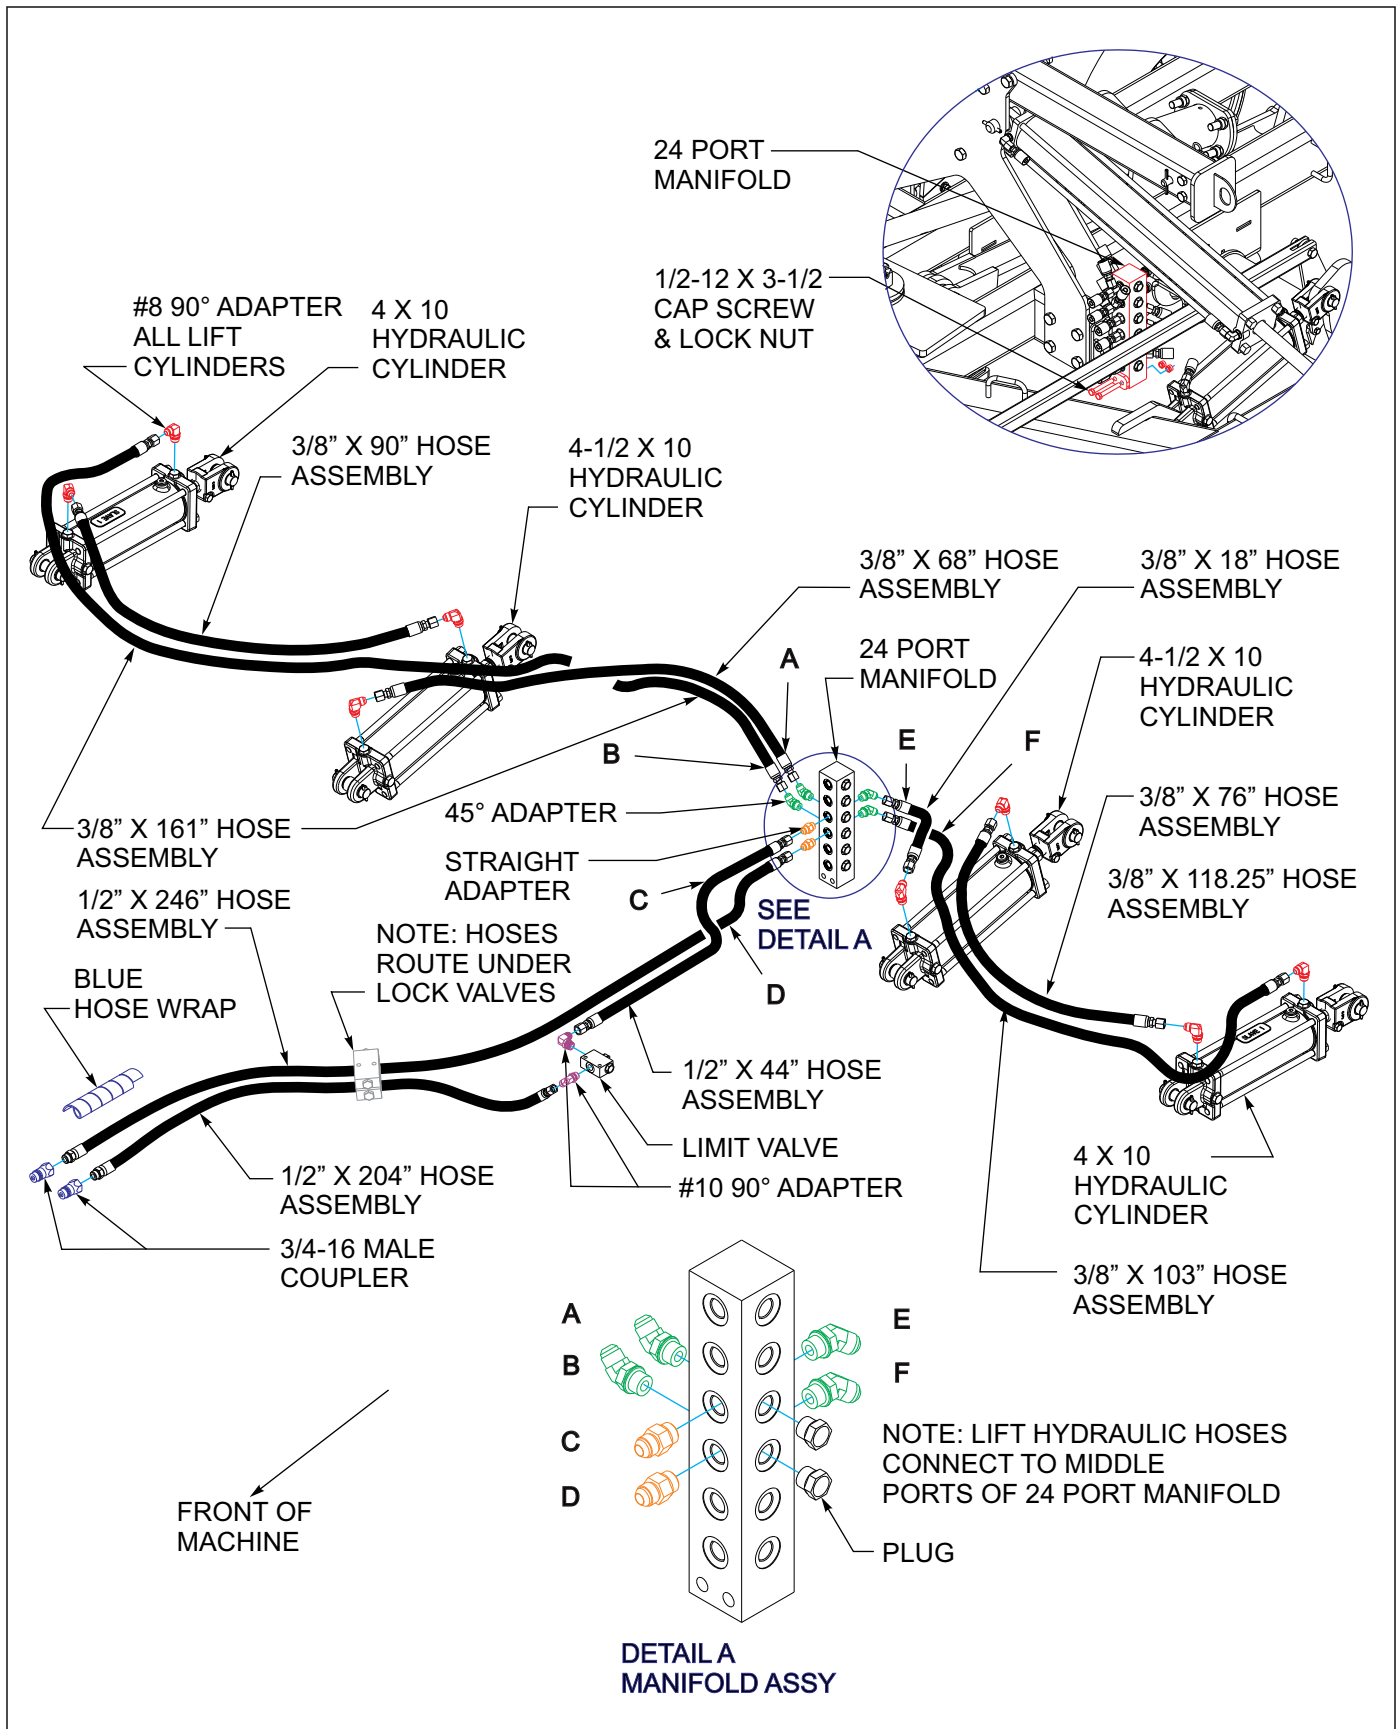
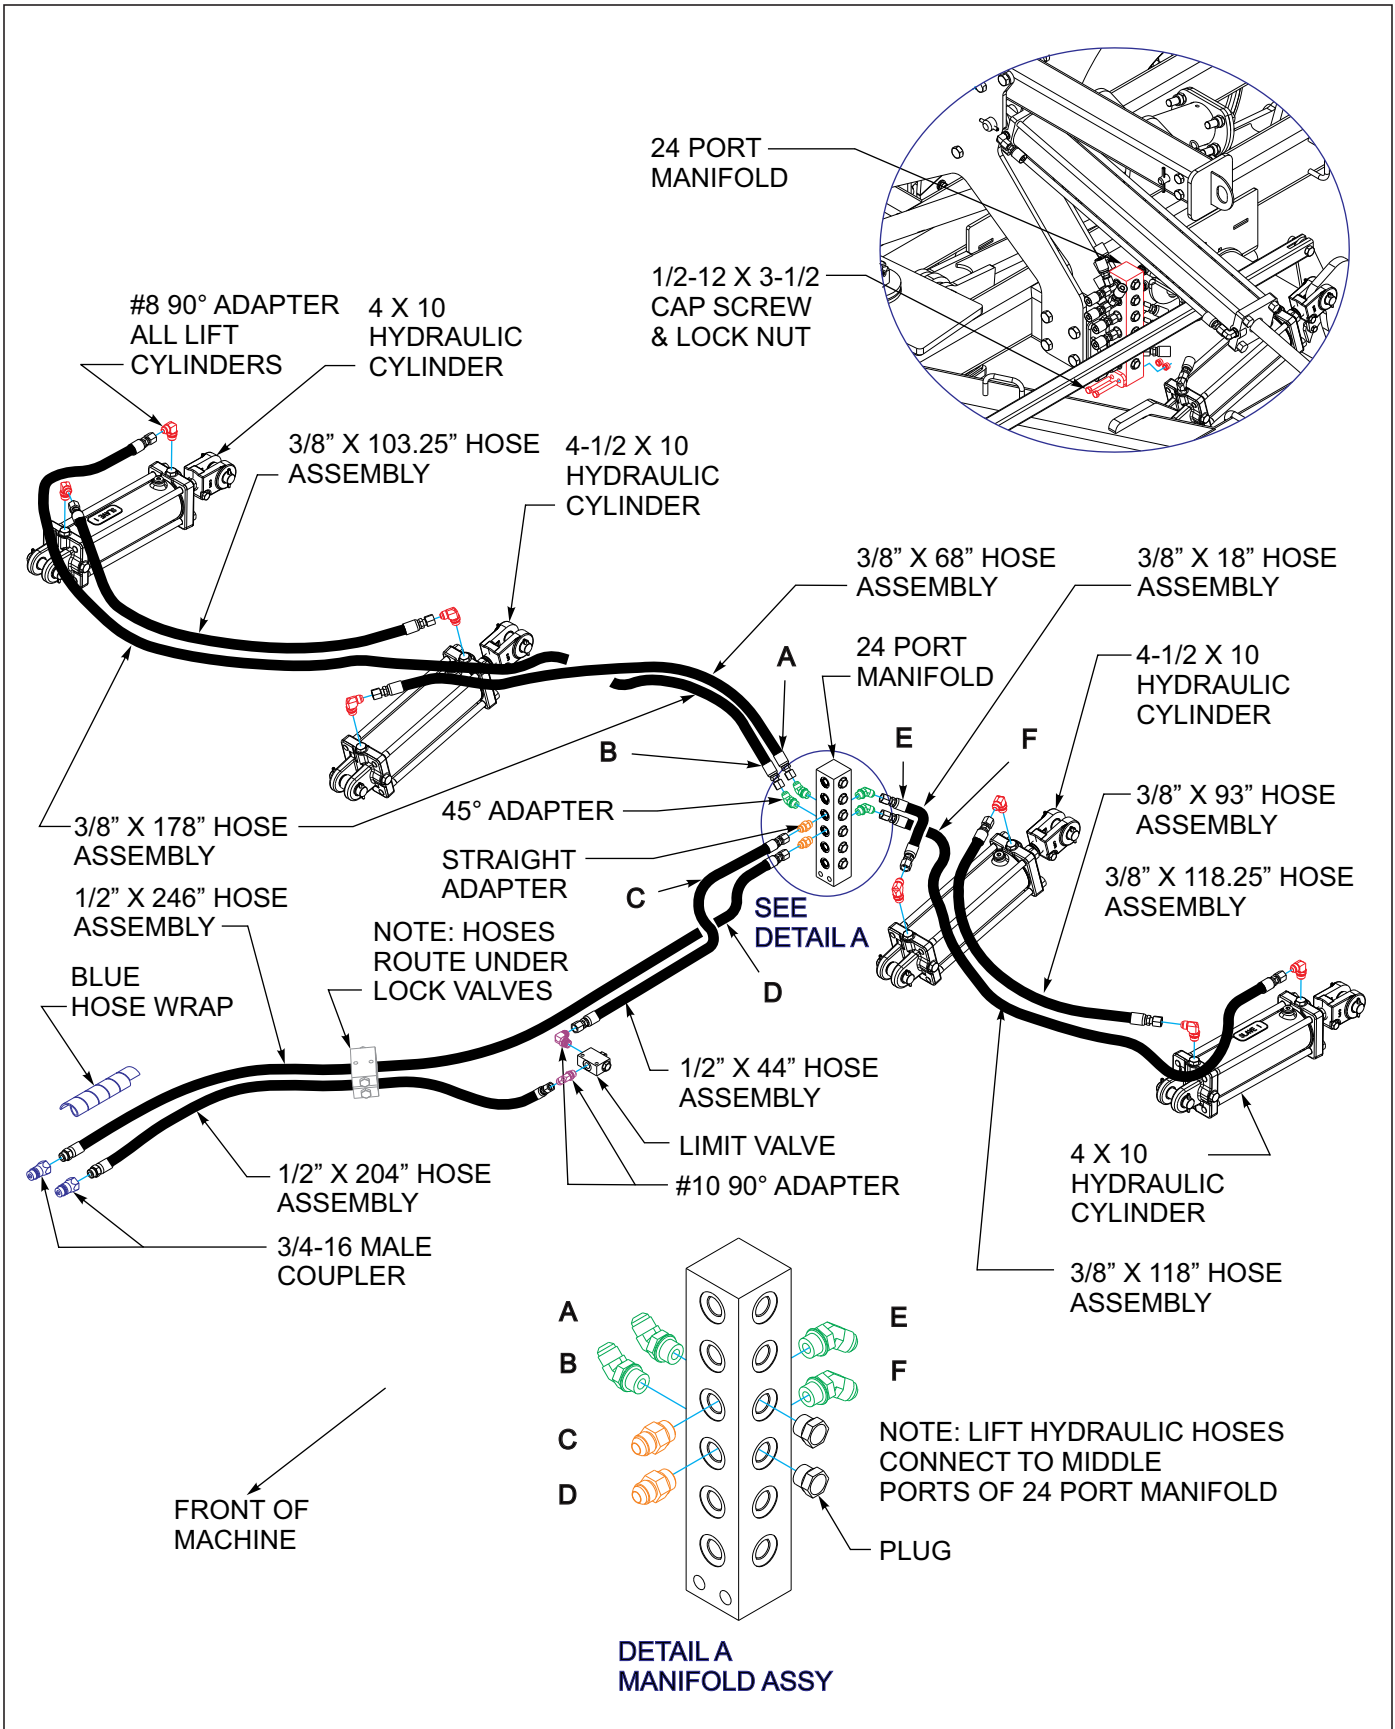
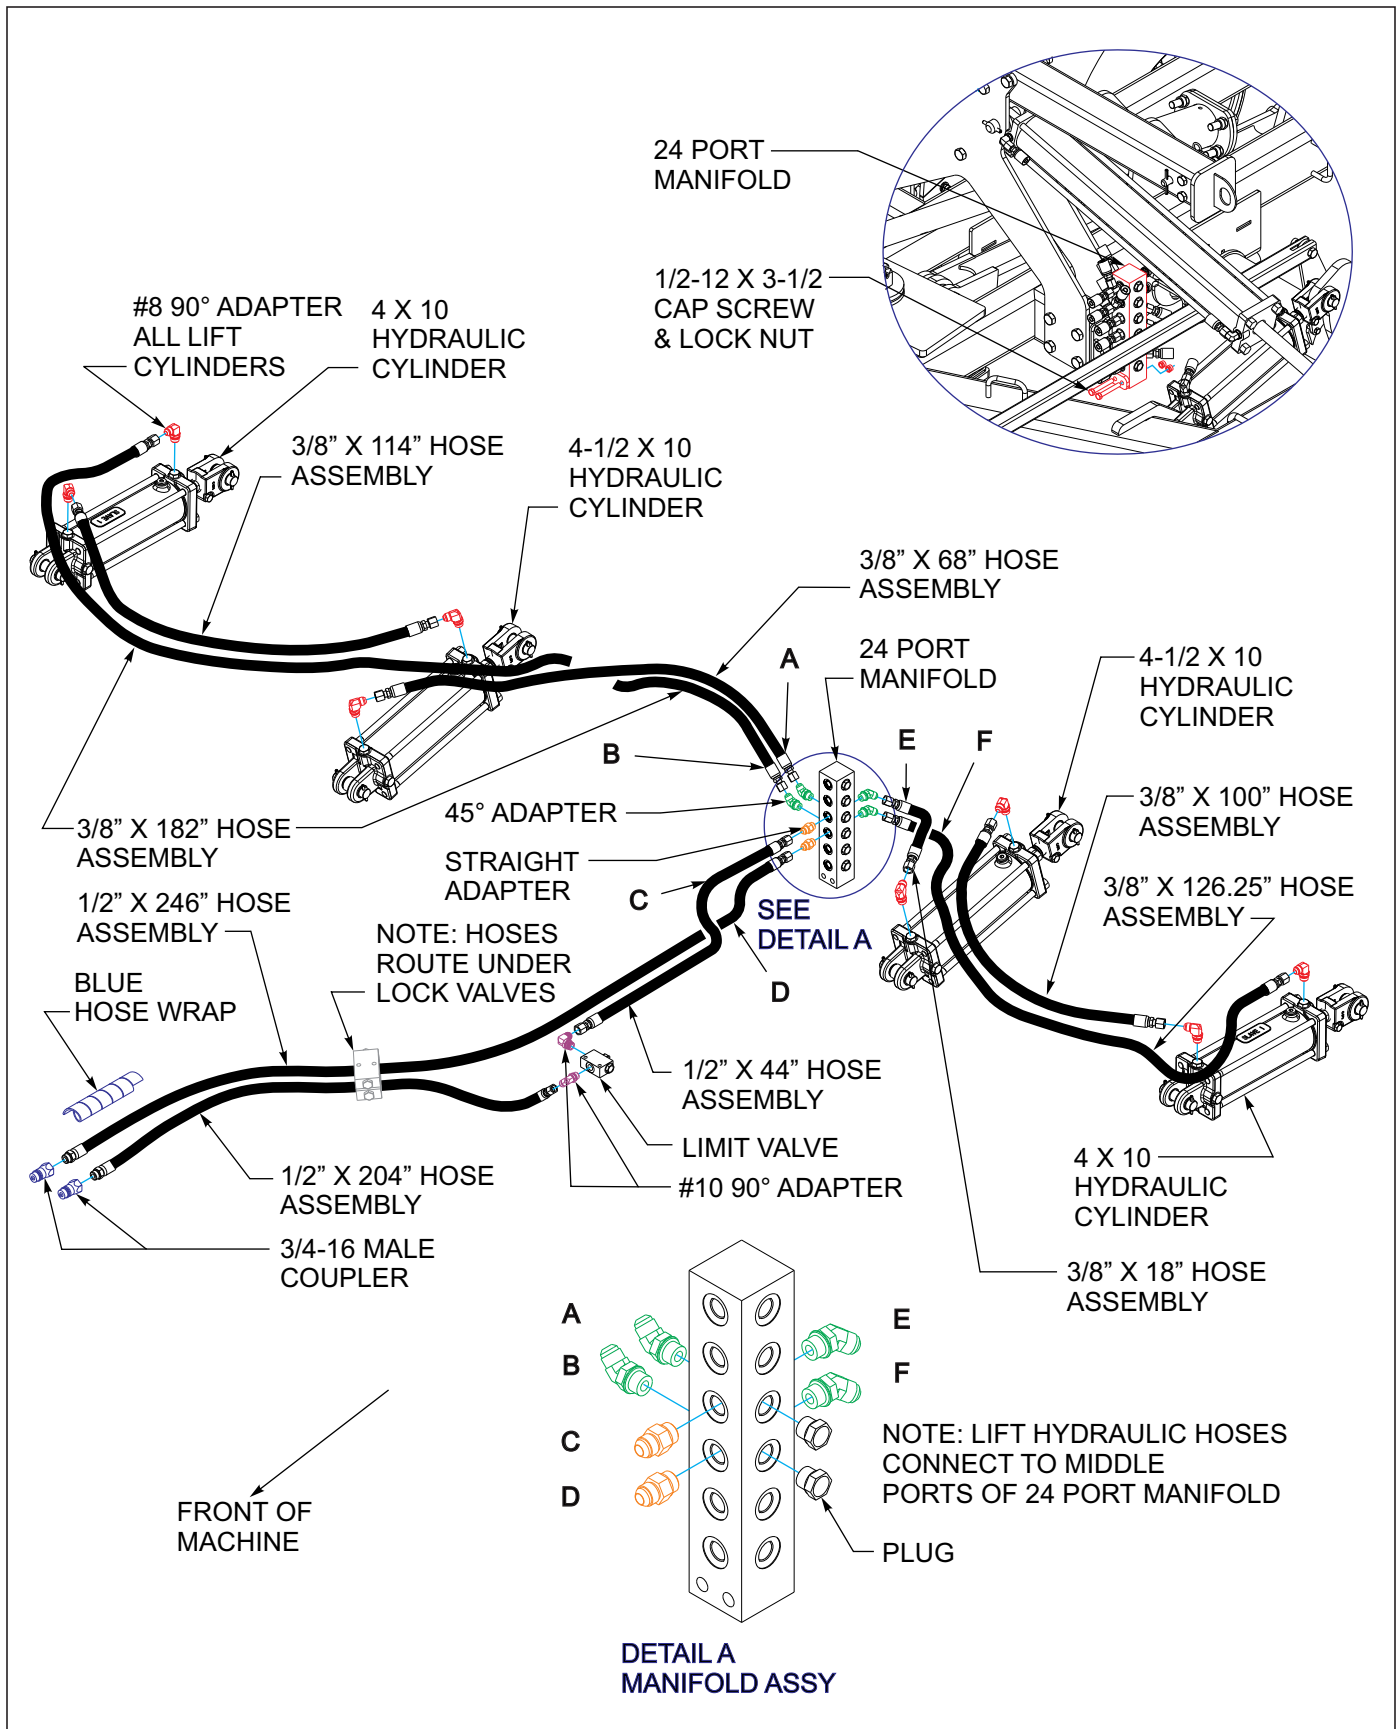
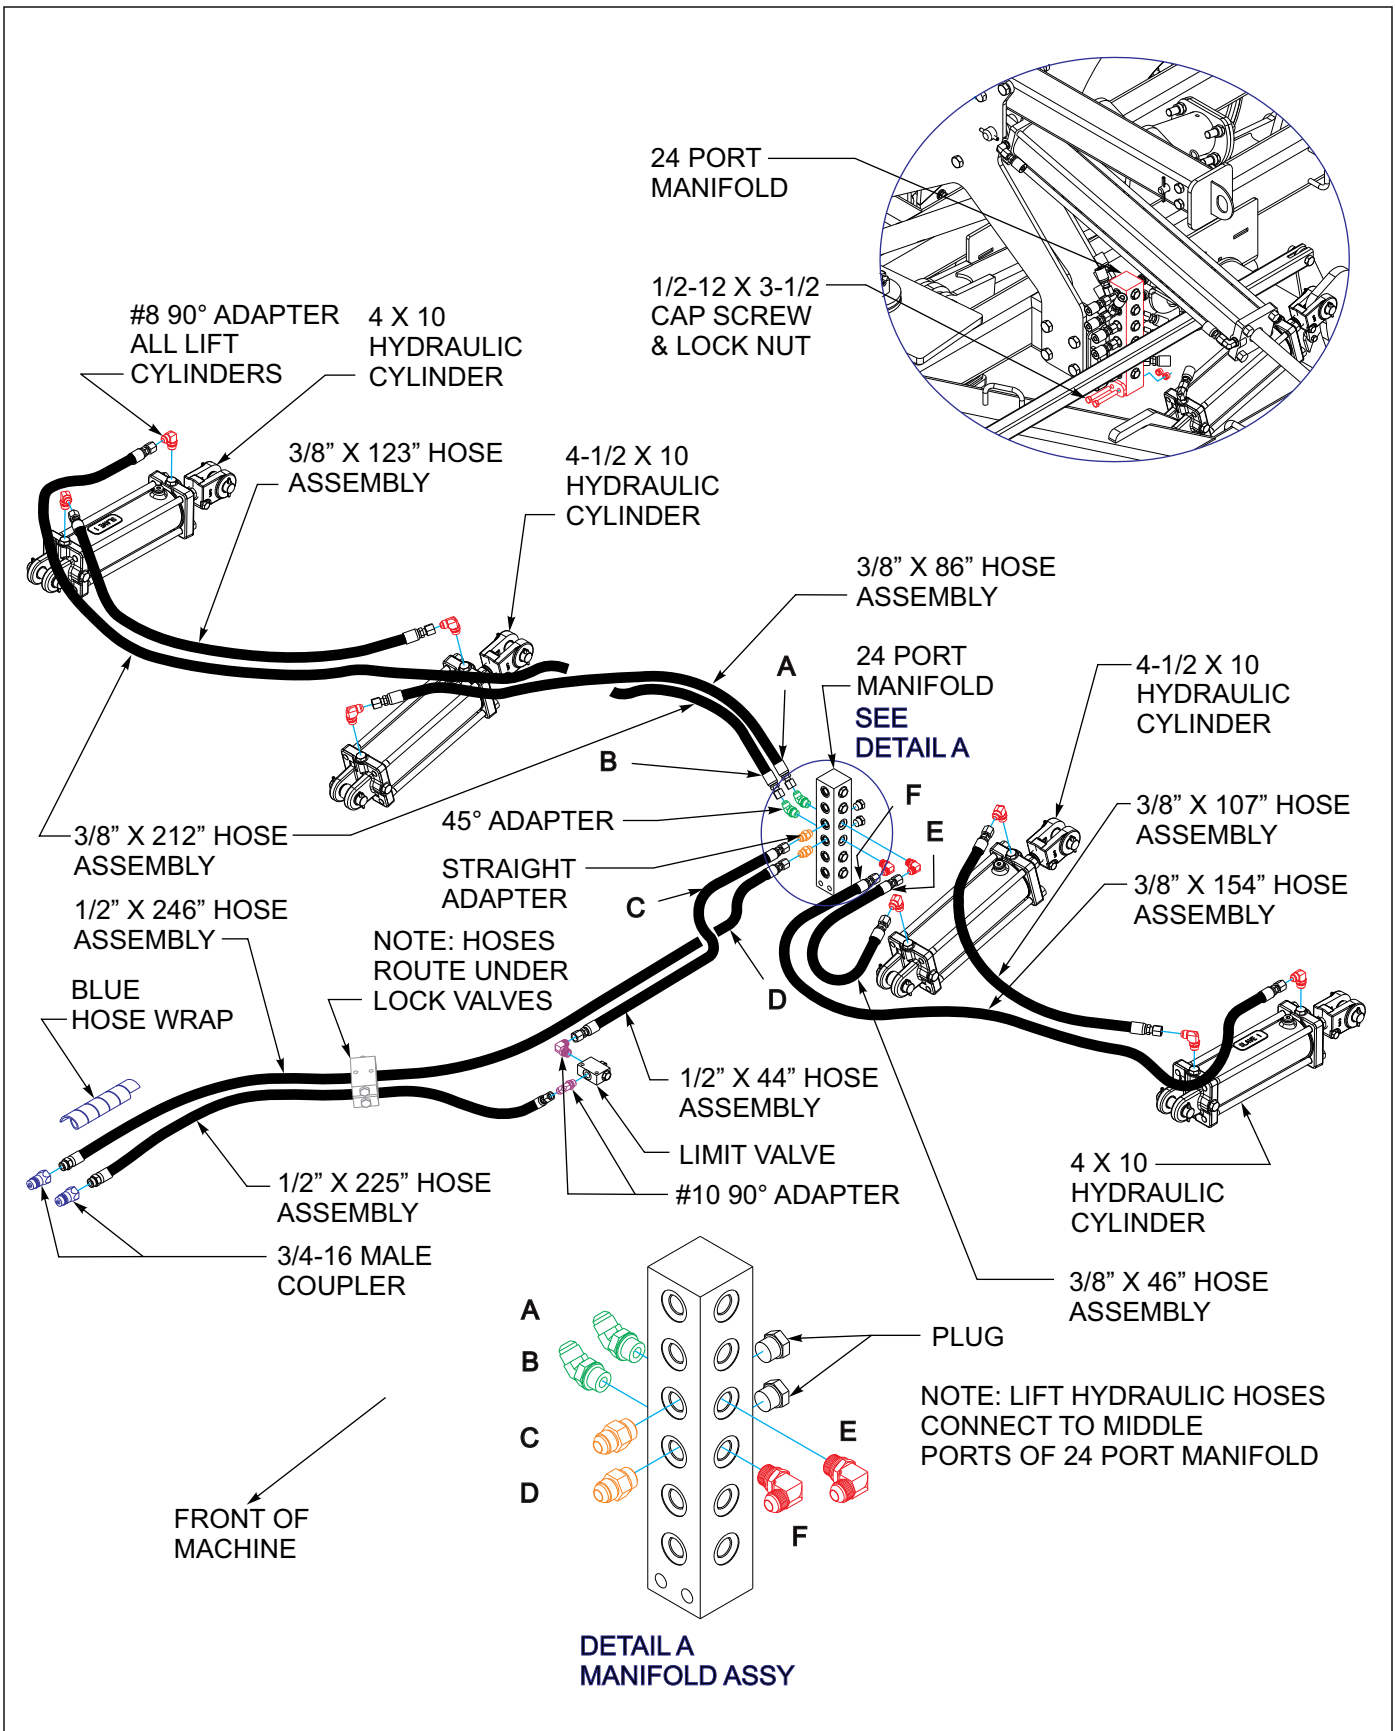

Figure 3-9: Lift Hydraulic Installation 7530-23'
Figure 3-10: Lift Hydraulic Installation 7530-26'
Figure 3-11: Lift Hydraulic Installation 7530-29'
Figure 3-12: Lift Hydraulic Installation 7530-32'/35'
Refer to Figures 3-9- 3-16 for lift hydraulic diagrams for 7530-26', 7530-29' and 7530-32'/35' models.
2. Install 90 degree regular adapter fittings in both rod and base ends of all lift cylinders that are assembled to the frame (See Figure 3-9.7530-23', See Figure 3-10.7530-26', See Figure 3-11. 7530-29', See Figure 3-12. 7530-32'/35').
11. Install lift cylinder hoses and couplers, (See Figure 3-10., 7530-26', See Figure 3-11., 7530-29' and See Figure 3-12. 7530-32') Wrap lift hoses with blue hose wrap.